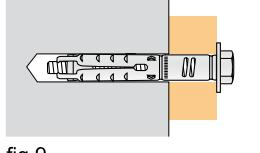

fig.9
- **Through fixings** (fig.9): the anchor is inserted in the base material through the fixture. The size of the hole of the object to be fixed is either bigger than or equal to the size of the hole in the base material. This hole is drilled either simultaneously with the hole in the base material or if already drilled is used as an outline to drill the hole in the base material.